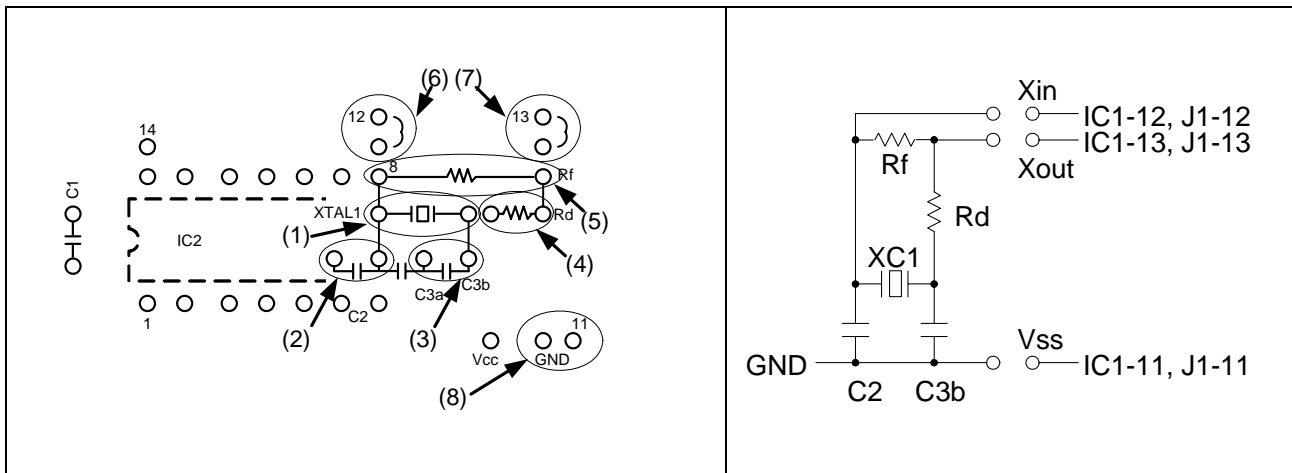

Figure 3 When using 2-pin type oscillator
**(2) When using 2-pin type oscillator**
When using a 2-pin type oscillator, follow the procedure below (see (1) to (8) in Figure 3).